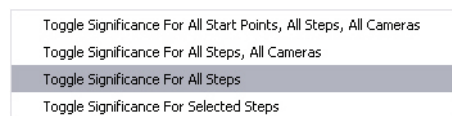

Figure 117 Startpoint Selection Menu
- *Tick box*: indicating in which camera and step this Startpoint is active. As default a Startpoint is active in all cameras at all steps. A right mouse click opens a context menu with additional functions for toggling the validity of Startpoint (Figure 117)